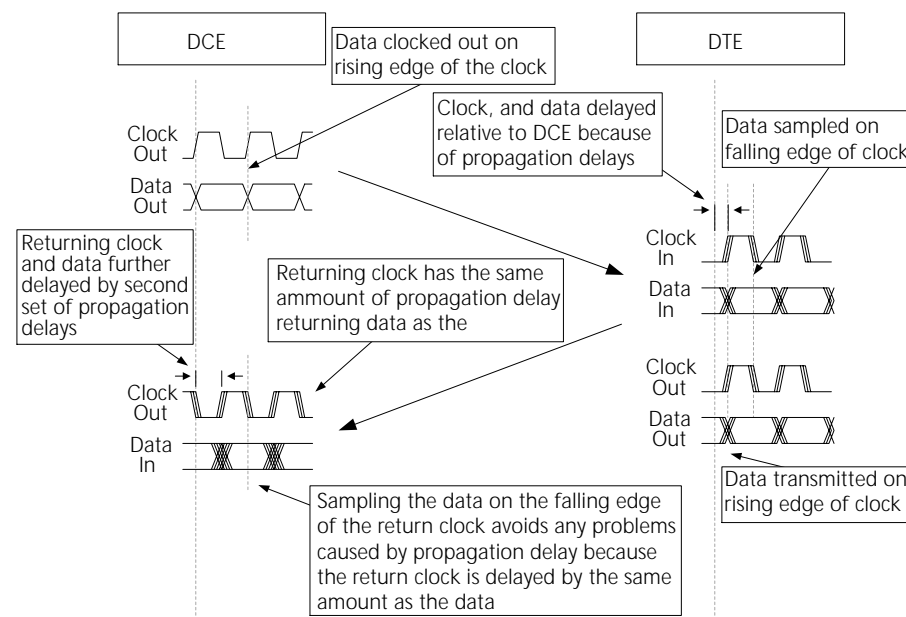

FIGURE A2 - DTE RETURN CLOCK OPERATION
**DTE CLOCK ENABLE** – Causes the AM2048 to use the clock returned from the DTE to sample receive data instead of the TX clock. See Figure A2 for more information. This is available for V35 (return clock on cct. 113), and X21 when in X mode (return clock on S Ext).